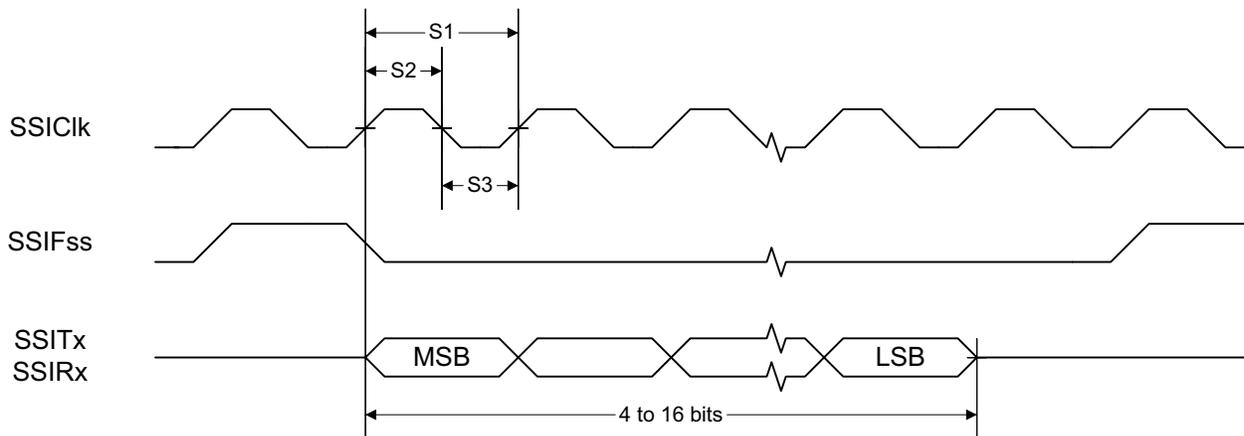
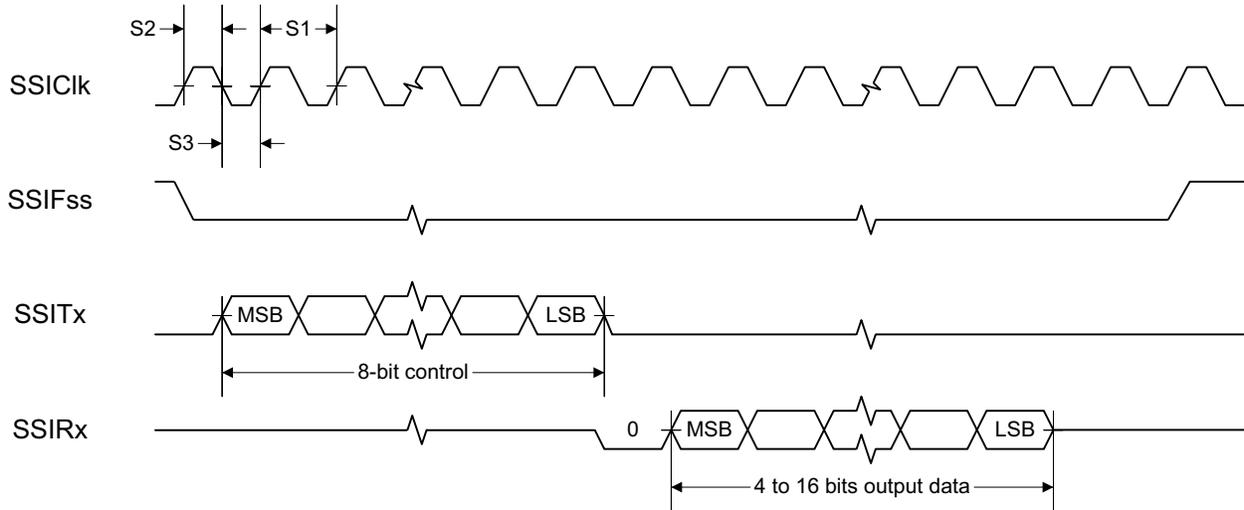
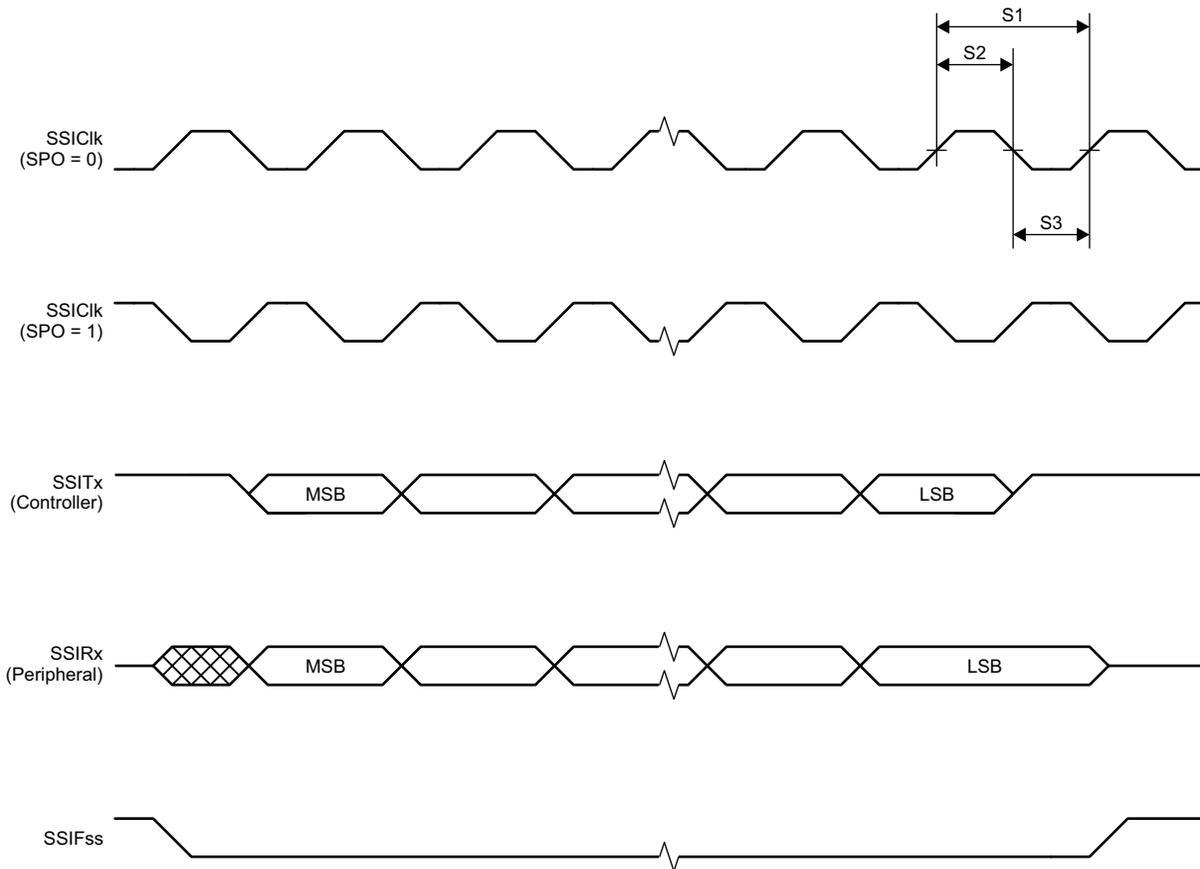

Figure 8-1. SSI Timing for TI Frame Format (FRF = 01), Single Transfer Timing Measurement
图 8-2. SSI Timing for MICROWIRE Frame Format (FRF = 10), Single Transfer
图 8-3. SSI Timing for SPI Frame Format (FRF = 00), With SPH = 1
- (1) Refer to SSI timing diagrams Figure 8-1, Figure 8-2, and Figure 8-3.
(2) When using the TI-provided Power driver, the SSI system clock is always 48 MHz.